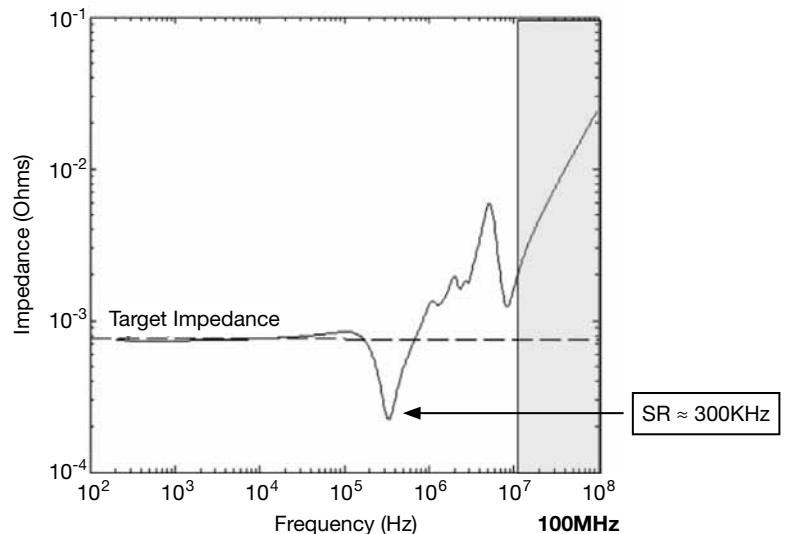

Figure 3. Impedance versus frequency response of a typical surface mount chip capacitor.
Figure 3 illustrates the impedance versus frequency response of a typical surface mount chip capacitor. To the left of the Self-Resonance point (SR) the device impedance will be capacitive. At frequencies above the self-resonance point the device is inductive. This means the capacitor will shunt and protect the IC in the capacitive frequency range. However, above the SR point the device offers no protection.